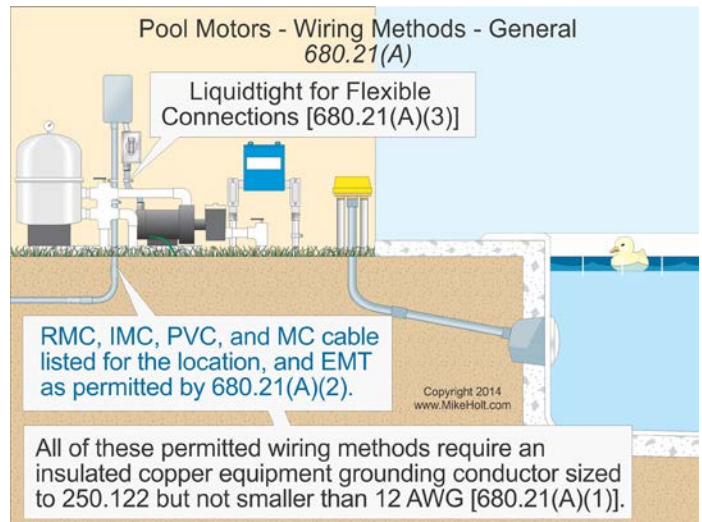

Figure 680-18
(A) Wiring Methods. The wiring to a motor must comply with (A)(1) unless modified by (A)(2), (A)(3), (A)(4), or (A)(5). Figure 680-18